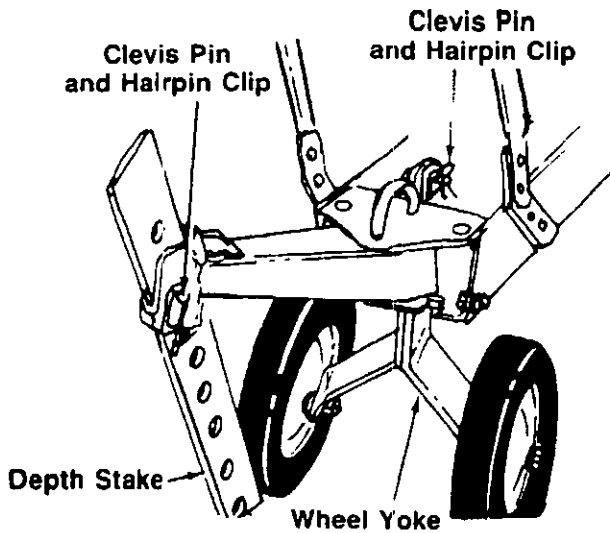

FIGURE 19.
The tiller is shipped with the wheels adjusted such that the unit sits level. During digging as the tines enter the ground and the front of the tiller lowers, the wheels must be raised to level the unit. This is essential for proper engine operation. This adjustment is made by removing the clevis pin and hairpin clip from wheel yoke, raising the wheels to the desired height, and replacing the clevis pin and hairpin clip. See figure 19.
1. **Wheel Yoke Adjustment:** Place wheel yoke so that the wheels are forward (nearest point between wheels and tines) for shallow tilling, cultivating and transport. This will increase the forward speed. Turn yoke around (farthest point between wheels and tines) for deep tilling. Forward speed will decrease. See figures 19 and 21.
2. **Depth Stake Adjustment:** The depth stake acts as a brake for the tiller and controls the depth and speed at which the machine will operate. Remove the clevis pin and hairpin clip to raise or lower depth stake. See figure 19.